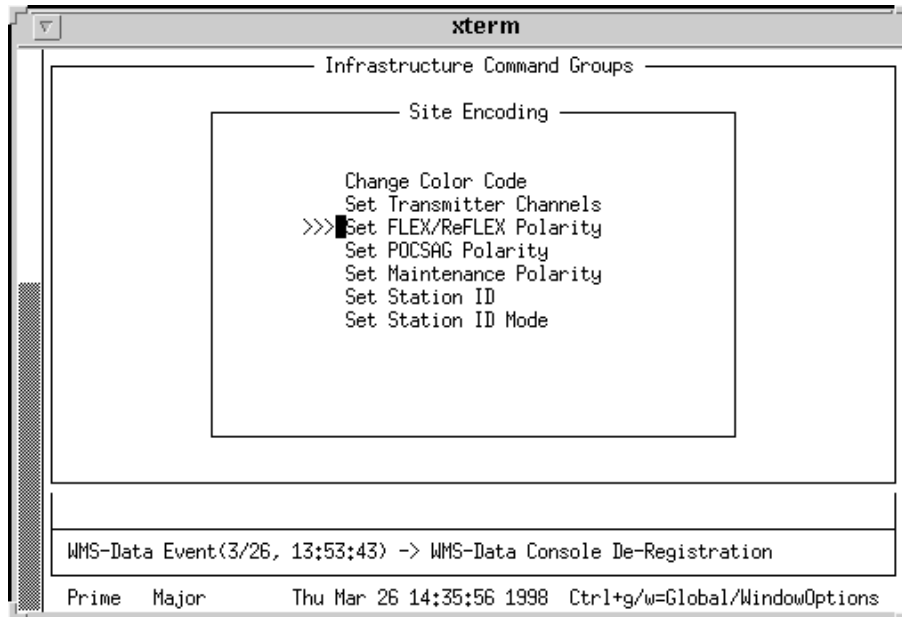

Figure 7-8: Infrastructure Command Groups—Set FLEX/ReFLEX Polarity
1. From the Site Encoding screen, use the <tab> to position the cursor to the left of the listing Set FLEX/ReFLEX Polarity and press: <Return> (see Figure 7-8).